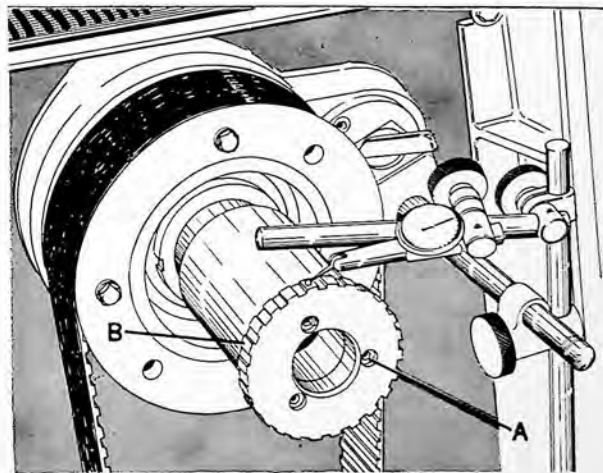

FIGURE 2
- a. Mount a magnetic base dial indicator as shown in figure 2.
- b. Loosen the three screws (A) just enough to allow the nut part of assembly (B) to move when lightly tapped with a soft hammer.
- c. Turn spindle slowly, by hand and lightly tap nut (B) on high points with soft hammer until total indicator reading is within 0.005".
- d. Then tighten screws (A) securely and re-check indicator reading. If reading has changed repeat the last three steps.